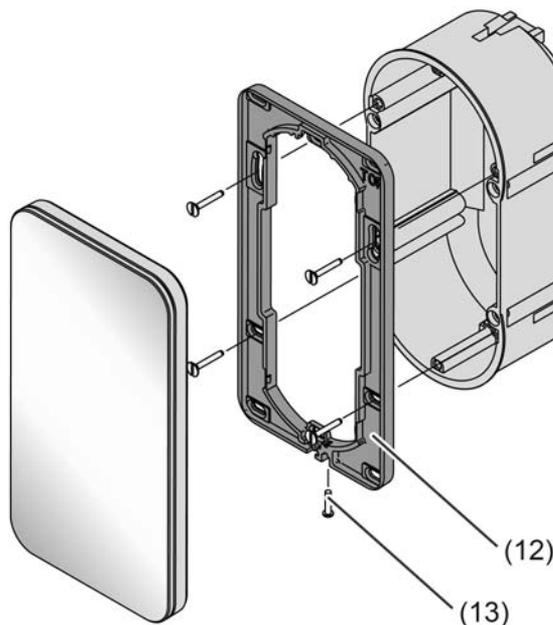

Figure 3: Device mounting of a Comfort touch sensor
- Align the mounting frame (12) and screw it to the flush-mounted box or the wall (Figure 3). Observe marking TOP. Use the enclosed set of screws.
- Connect the KNX cable with connecting terminal to the terminal (6).
- Optional: Connect the external floor temperature/remote sensor to the terminal (5).